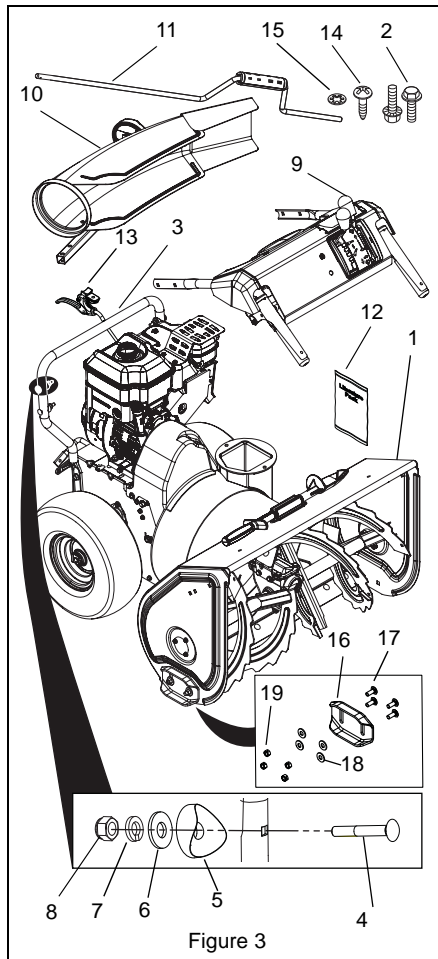

Figure 3
Check the contents of your package for the parts listed below (Figure 3):
2. Secure lower handlebar to unit using two 3/8" x 3/4" hex head serrated flange grade 5 bolts (Figure 3, Item 2)
1. Attach remote trigger cable assembly to upper handlebar assembly using one 1/4" x 1-1/2 oval head machine screw (Figure 3, Item 14) and one 1/4" locking washer (Figure 3, Item 15) (Figure 9).